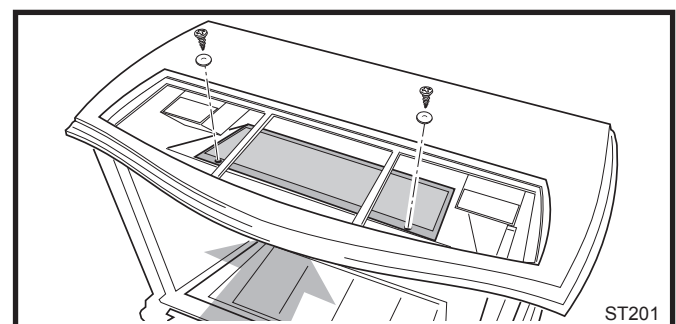

Fig. 21 Install catalytic combustor.
7. Slide catalyst between top plate and firebox. Allow catalyst to "fall" into hole on top of firebox. Secure with two screws as shown in Figure 21.